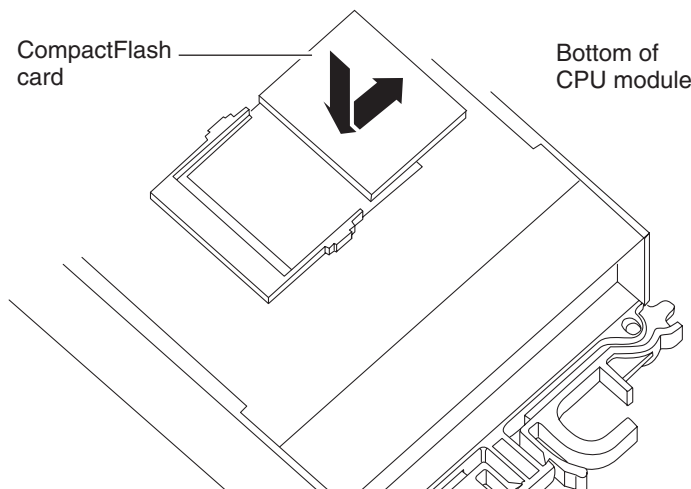

Figure 14. CompactFlash card removal
3. On the bottom side of the CPU module, remove the CompactFlash card. Use your thumb to apply pressure to the exposed surface of the card, while gently sliding the card out of the socket, as shown in Figure 14.